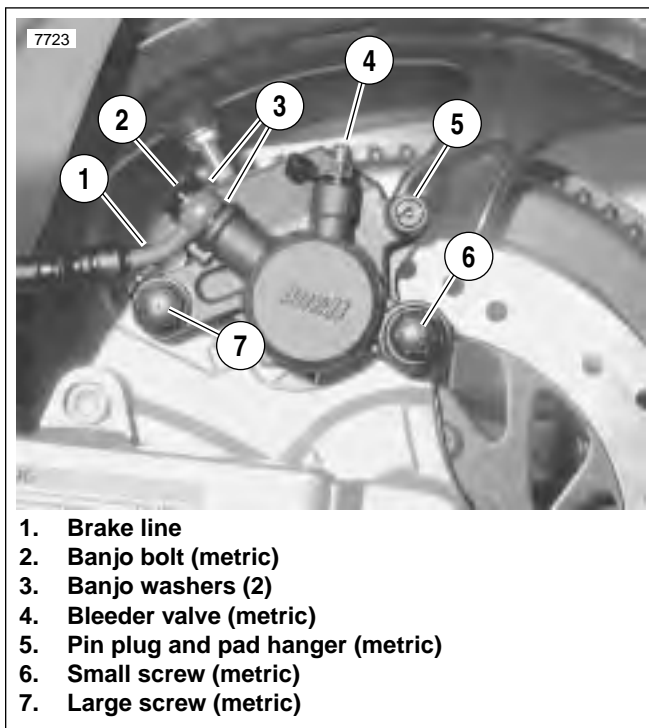

Figure 2-60. Rear Brake Caliper (Typical)
2. See Figure 2-60. Install caliper assembly on caliper mount. Brake pad surfaces must face rear brake rotor.
- b. Install large caliper screw (7) (metric). Tighten to 18-22 ft-lbs (24-30 Nm).
- c. Install small caliper screw (6) (metric). Tighten to 15-18 ft-lbs (20-24 Nm).